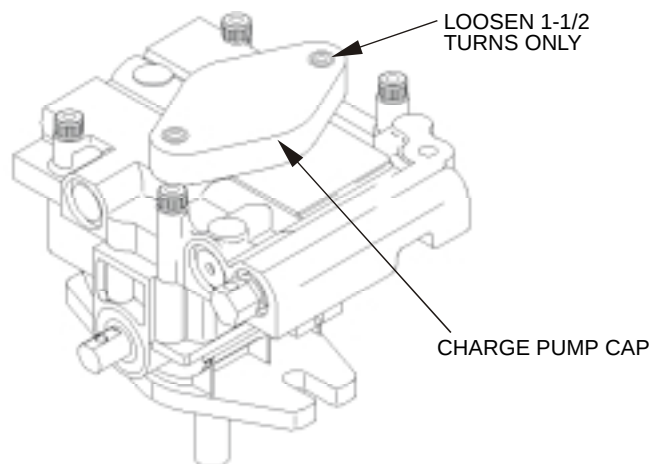

FIG. 6
- g) If either drive wheel does not rotate, one or both of the charge pumps (located on the top of the main pump as shown in Figure 6) may have lost their “prime”. Refer to Section 5.1.10.
The critical area for purging air from the hydraulic system is between the oil reservoir and each charge pump located on the top of each variable displacement pump. (See Figure 6). Air in other parts of the hydraulic system will be purged through normal operation once the charge pump is “primed”.
- e) To “prime” charge pump, loosen two hex socket head capscrews (shown in Figure 6) **1-1/2 turns only. Make sure engine is not running.** Lift the charge pump housing upward and wait for a steady flow of oil to flow out from under the housing. Retighten the capscrews. Do this for both pumps.